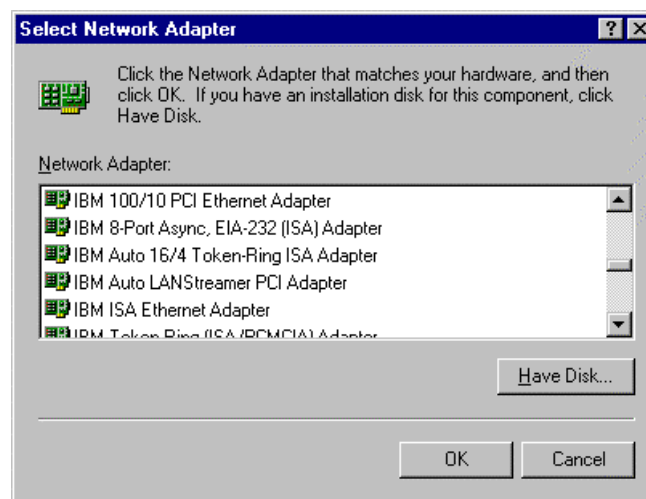

Figure 6-5. Select Network Adapter
3. Click the **A**dd button to add a new adapter. The Select Network Adapter dialog box will display a list of adapters included with Windows NT (Figure 6-5).